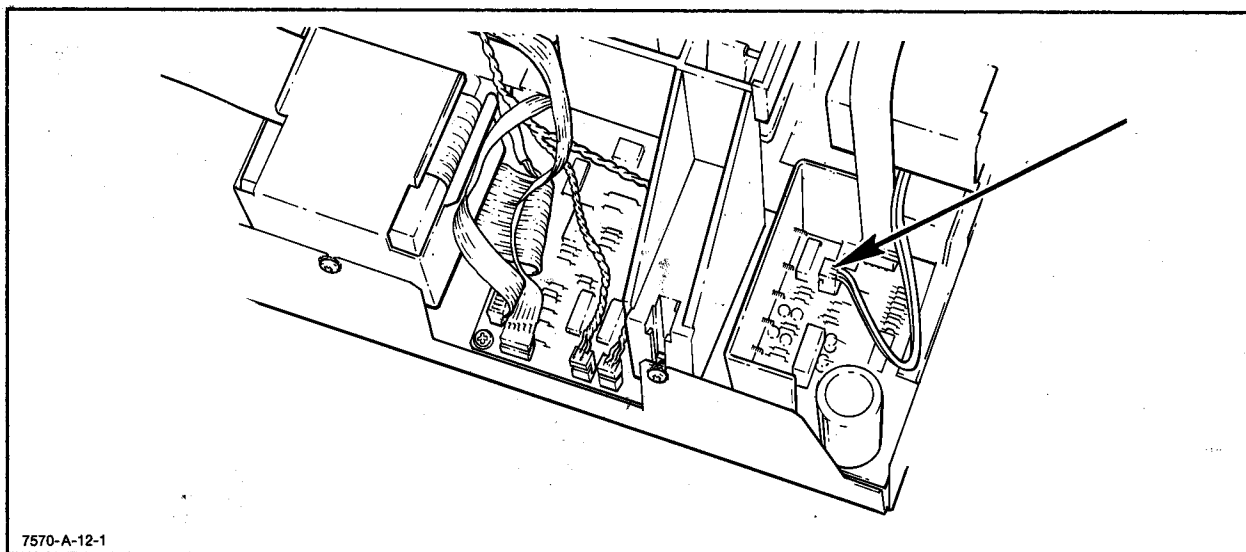

Figure 6-41. Transformer Secondary Connections
f. Disconnect the transformer secondary leads (2) from the PCA. See Figure 6-41.